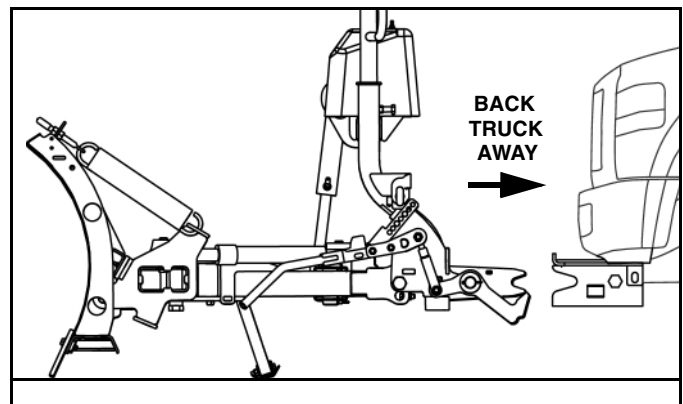

Figure 1-36
8. Back truck away from plow. (See Figure 1-36).